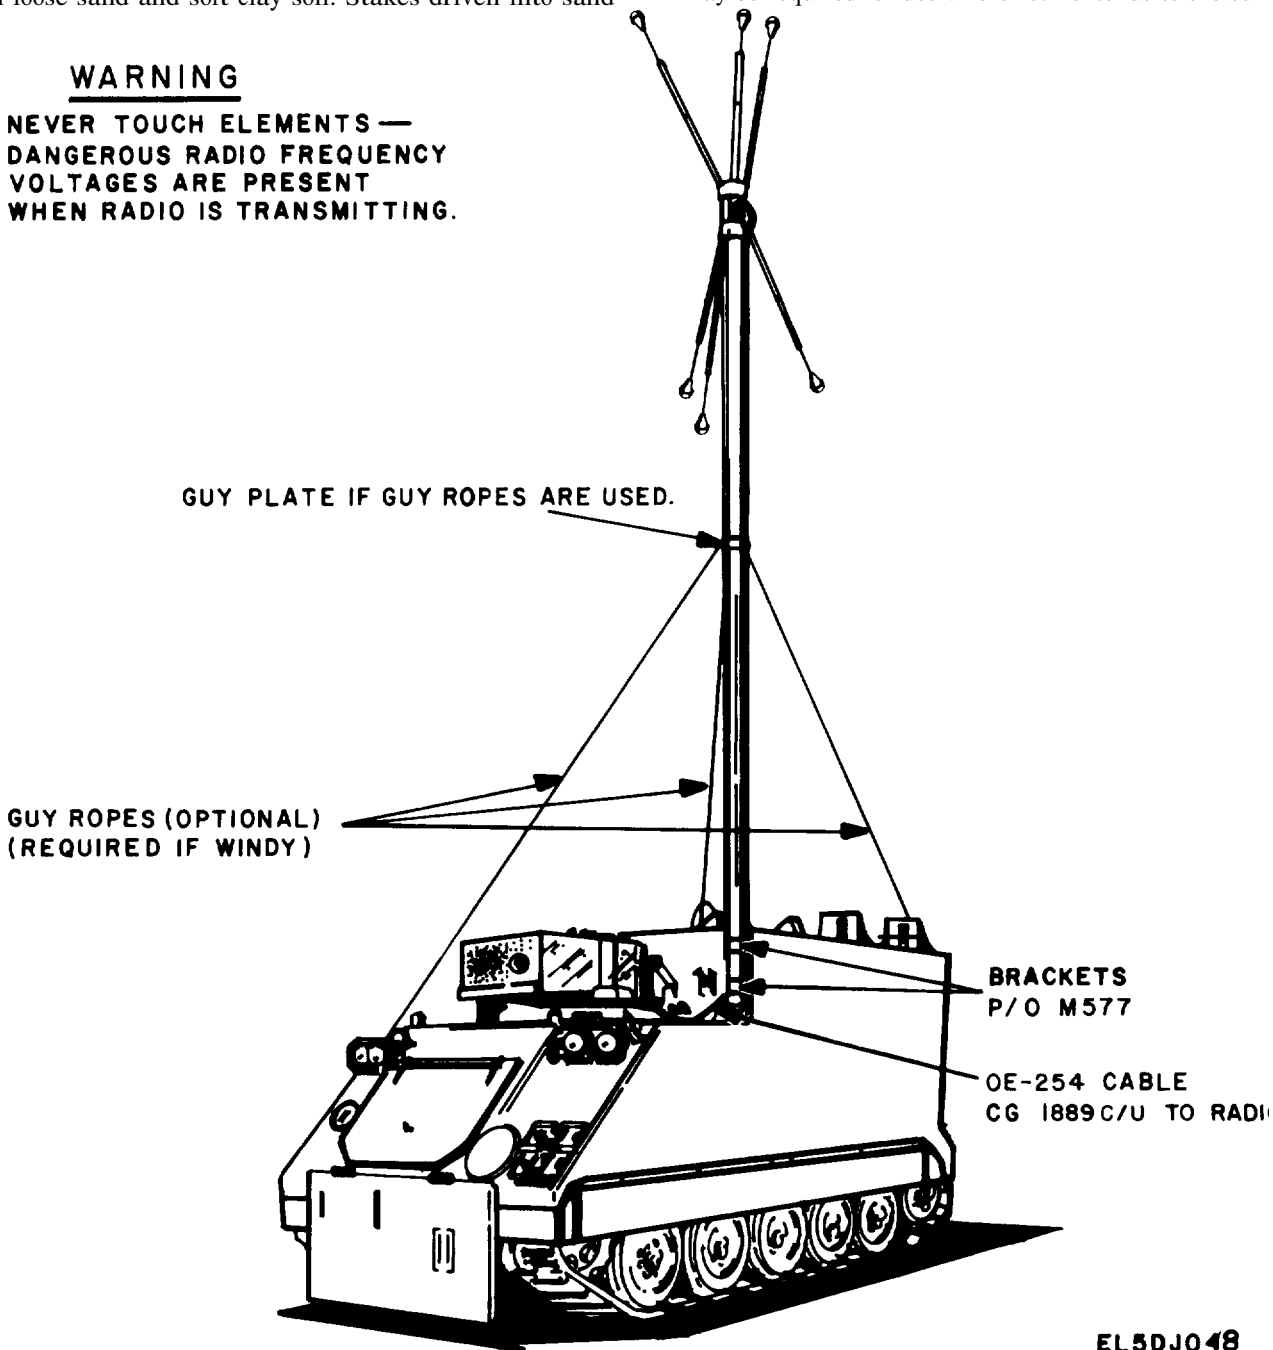

Figure 2-24. OE-254/GRC Installed on top of M577 Command Post.
d. Installing OE-254/GRC on M577 Command Post (fig. 2-24).
bottom section into the brackets on the top of the M577 (fig. 2-24).